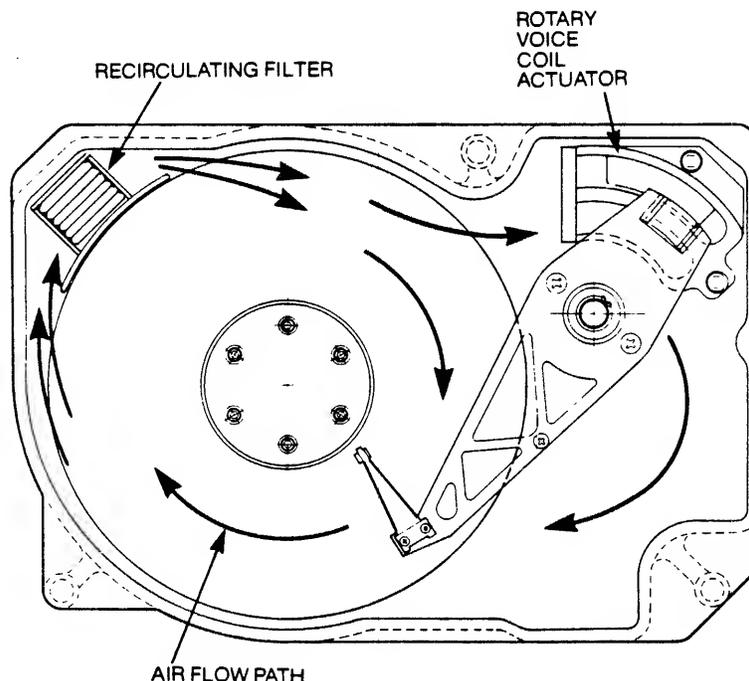

Figure 1
2.4 Air Filtration System (Figure 1)